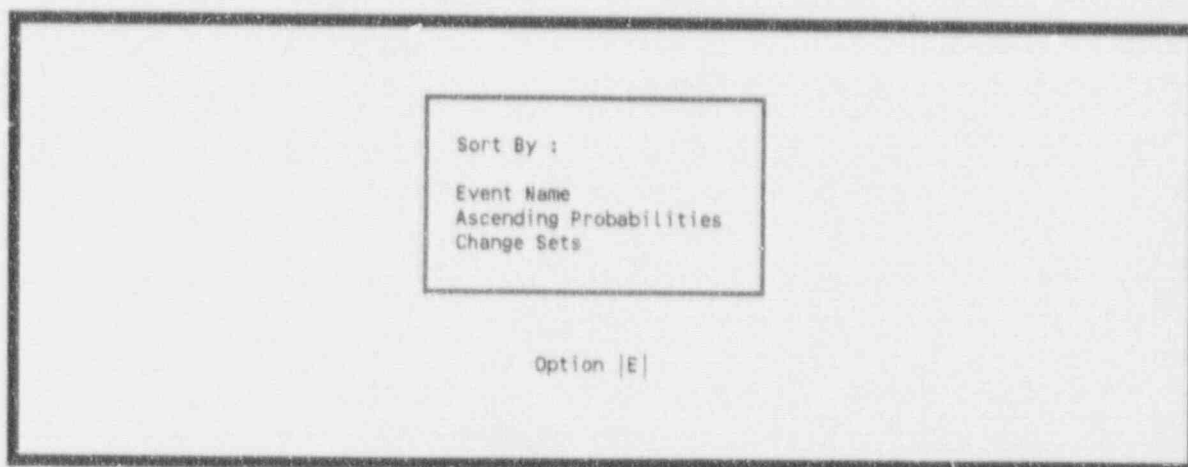

Figure 35. Selecting the sorting order for event reports.
**3.2.9.2 Unaffected Events (Base).** This option allows you to generate a report of the events that are not affected by any of the change sets that currently exist in the data base. To invoke this option, type  in the option field and press <Enter>. The sort selection menu will be displayed, allowing you to sort the data by event name, ascending probability, or change set (see Figure 35).
**3.2.9.3 Affected Events (Current).** This option allows you to generate a report of the events that are affected by the change sets that currently exist in the data base. To invoke the option, type <F> in the option field and press <Enter>. The sort selection menu will be presented allowing you to sort the data by event name, ascending probability, or change set (Figure 35).
**3.2.9.4 All Events (Base, Current).** This option allows you to generate a report of all of the events in the data base. The report will indicate the events affected by a change set. To invoke the option, type <A> in the option field and press <Enter>. The sort selection menu will be presented allowing you to sort the data by event name, ascending probability, or change set (Figure 35).